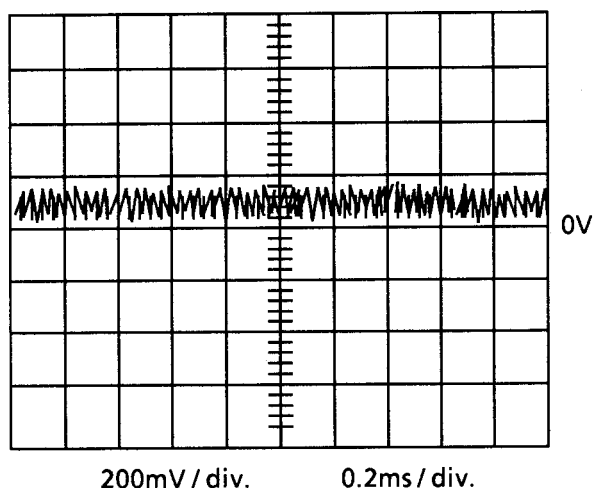

Figure 1
1. Connect an oscilloscope to TP 6(FE) and TP 3(GND).
3. Adjust R603 (F.GAIN ADJ.) so that the waveform becomes below figure 1.